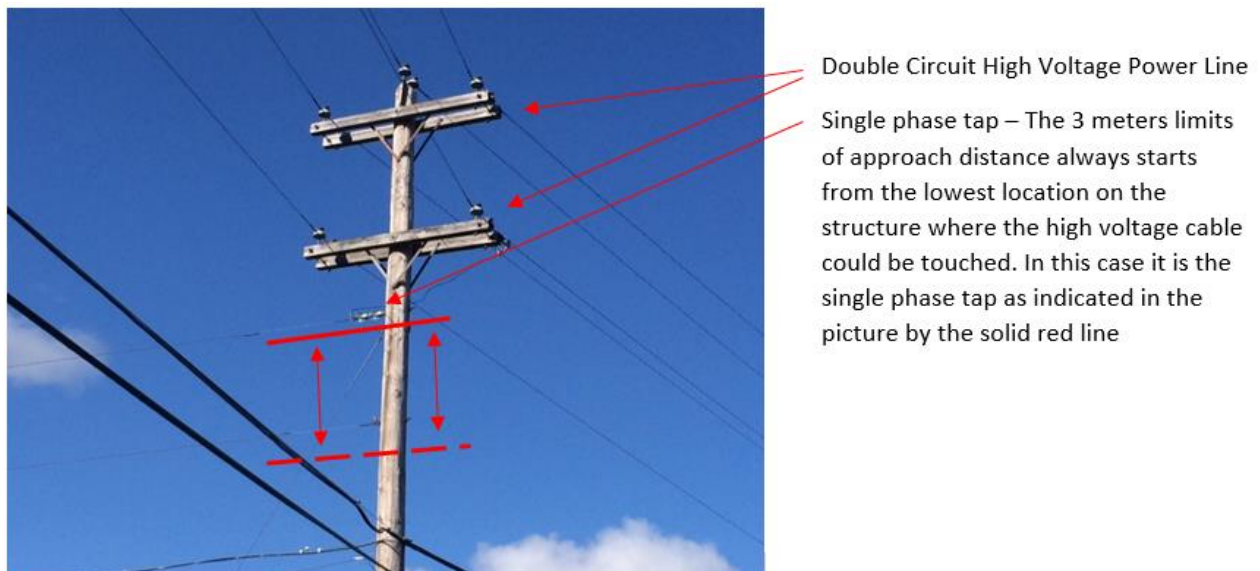

Figure 10 - Three Phase Double Circuit Structure with Single Phase “Tap”
- 7.3.4. FortisAlberta has locations where two different circuits are located on the same structure. Either circuit may consist of 2 or 3 high voltage conductors. If conductors are attached to a crossarm, then they are always assumed to be high voltage conductors. In the example above a single phase “tap” is also attached to the structure located below the bottom crossarm. “Taps” are energized at the same high voltage as the top conductors and so are the lowest location on the structure where the high voltage could be contacted. Therefore, the 3 meter limit of approach distance is measured down from the “tap off” location (indicated by the solid red line) as shown in Figure 10.